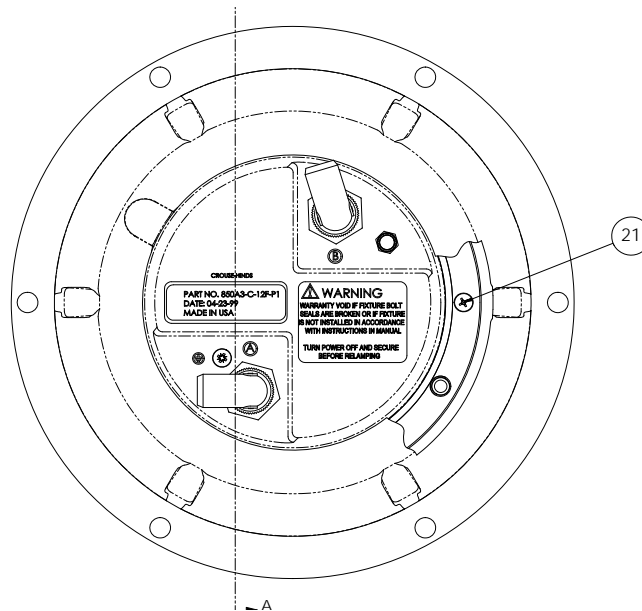

Figure 6 Bottom View of Fixture
**Remove and secure power to the fixture.** Separate the Optical Assembly from the outer ring by removing the two bolts. There are two pry slots in the optical housing to help separate the Optical Assembly from the support ring. Turn the Optical Assembly upside down and remove the four screws holding the inner cover to the light housing. Disconnect the lamp leads from the feed-thru terminals. Remove the feed-thru by unscrewing the retaining collar. Clean the mounting surface with Isopropyl Alcohol and allow to dry. Apply a thin coat of Dow Corning FS 1292 grease to the mounting flange of a new feed-thru (P/N 21121 for 2 lamp/ 1 plug, or P/N 21122 for 1 lamp/ 1 plug). Apply a drop of Loctite 242 to the feed-thru adapter threads. Screw the feed-thru retaining collar onto the adapter; refer to Figure 6 for proper inner cover/ feed-thru orientation. Torque the retaining collar to 30 in-lbs. Assemble the inner cover onto the light housing. The screw hole patterns in the inner cover and light housing are offset to insure proper alignment. Torque the mounting screws to 30 in-lbs. . Perform a pressure test per paragraph 9.8. Clean the mounting flange area of the support ring. Place the Optical Assembly into the support ring. Install new stainless steel split-ring lock washers. Apply Loctite 242 (P/N 10048-30), per manufacturer's instructions, to both mounting bolts and immediately torque them to 225 -0+10 in-lbs.